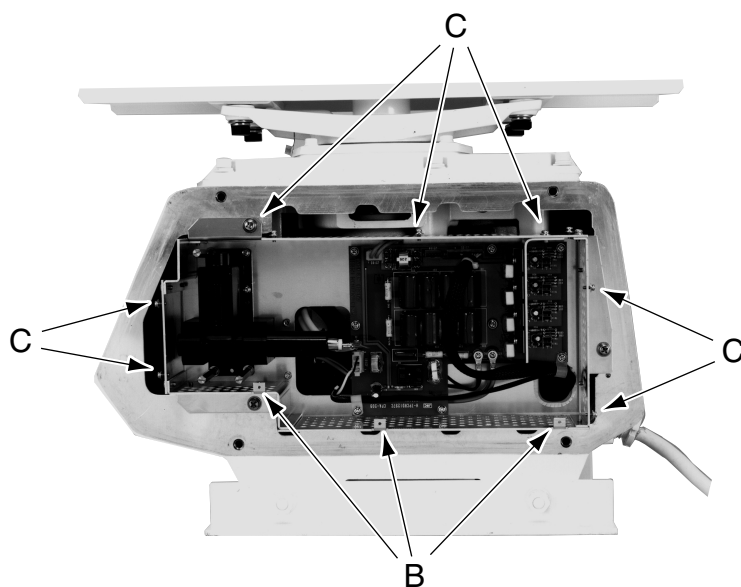

Fig. 8.6 Internal View of Modulator of 25kW Scanner Unit NKE-1056
- (2) Remove the three modulator cover B screws and loosen the seven C screws to remove the cover (see Fig. 8.6).